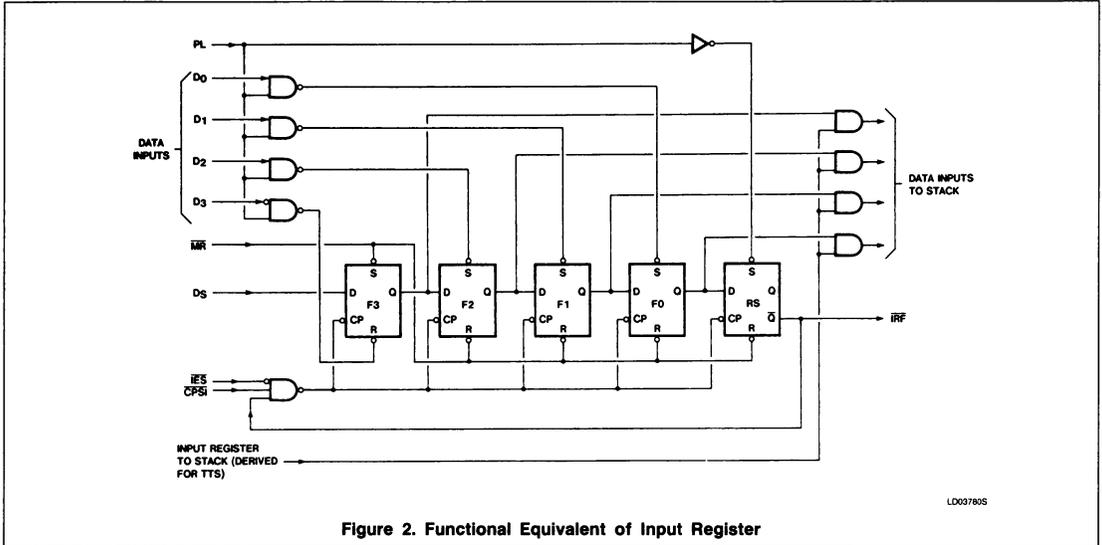

Figure 2. Functional Equivalent of Input Register
Data can be entered serially or, using the parallel mode of operation, data is entered in 4-bit increments. In either case, the data is subsequently transferred to the fall-through stack; the functional equivalent of this register is shown in Figure 2. The Input Register Full (IRF) status signal is internally generated by the Register Status (RS) flip-flop; when initialized, the Q (IRF) output of this flip-flop is high.
When PL is high and CPS is low (Figure 2), flip-flops F0 – F3 are loaded with data and IRF is forced low. This condition remains until current data is transferred to the stack. Once the data is transferred, IRF is driven high and new data can again be clocked into the input flip-flops. If parallel expansion is not being implemented, IES must be low to establish row mastership — refer to discussion of parallel expansion.
As shown in Figure 2, the outputs of F0 – F3 are applied to the stack under control of a signal derived from TTS. When TTS is low, an attempt to initiate a fall-through action is made. If the top location of stack is empty, data is loaded and the input register is re-initialized provided PL is low. Note that initialization is postponed until PL is again low. Thus, automatic FIFO action is achieved by connecting the TTS input to the IRF output.
The RS flip-flop (Figure 2) records the fact that data has been transferred to the stack; this flip-flop is not cleared until PL goes low. Therefore, if a particular data word is transferred to the stack and falls to the second location before PL goes low, the same word will not be re-transferred even though IRF and TTS are still low. Once data enters the stack, "fall-through" is automatic; a delay is